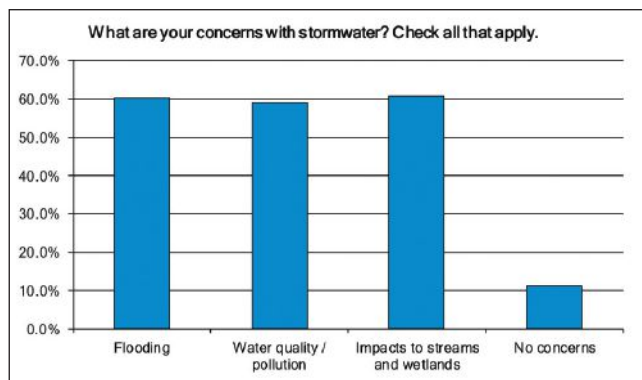

Figure 2. Survey responses about stormwater services in the City of Shoreline (2016)
- General concerns about the stormwater services were relatively evenly distributed among flooding, water quality/pollution, and impacts to streams and wetlands (Figure 2).